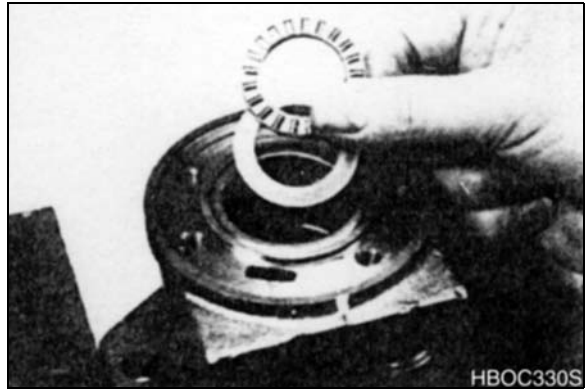

Figure 47
6. Assemble thrust washer (14) then thrust bearing (15) that was removed from the Series MG or MF Torqmotor™. See Figure 47.